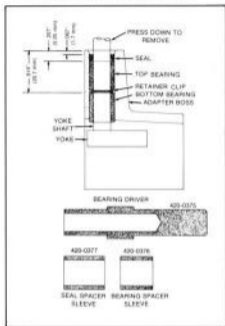

FIGURE 3-48. BEARING INSTALLATION AND TOOL PACKAGE (429-0374)
1. Referring to Figure 3-48, press shaft and yoke assembly towards center of adapter until shaft and bottom bearing slips out bottom end.